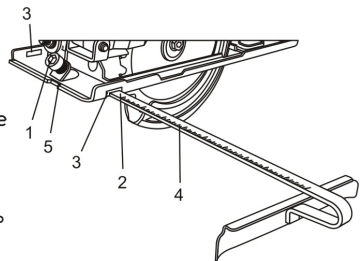

Fig. 5
- Loosen the edge guide locking screw (1) counter clockwise approximately 2 turns using the 5mm hex key (Fig. 5).
- Slide the edge guide mounting rod (2) into the mounting slots (3) in the sole plate.
- Align the desired cutting width on the scale (4) with the 0° cutting mark (5) in the sole plate.